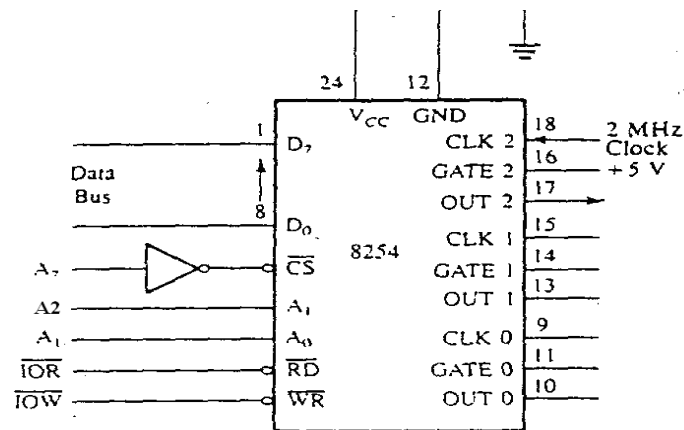

FIGURE 7.4:
1. Identify the port addresses of the control register and counter 2 in Figure 7.4.
Write instructions to generate a pulse every 50 μ s from Counter 0 (Refer to Figure 7.4).
Write instructions to generate a 1 kHz square wave from Counter 1 (Refer to Figure 7.4). Assume the gate of Counter 1 is tied to +5 V through a 10 k resistor. Explain the significance of connecting the gate to +5 V.